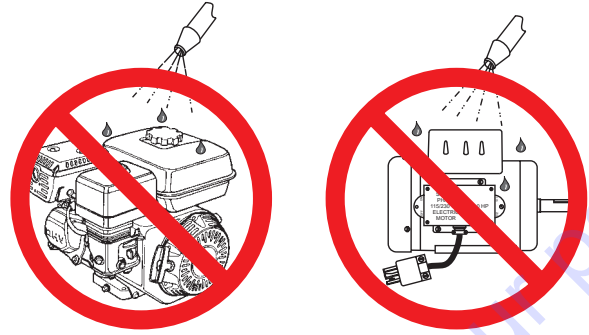

Figure 38. No Spraying of Water
6. **NEVER** pour or spray water over the engine or electric motor (Figure 38).